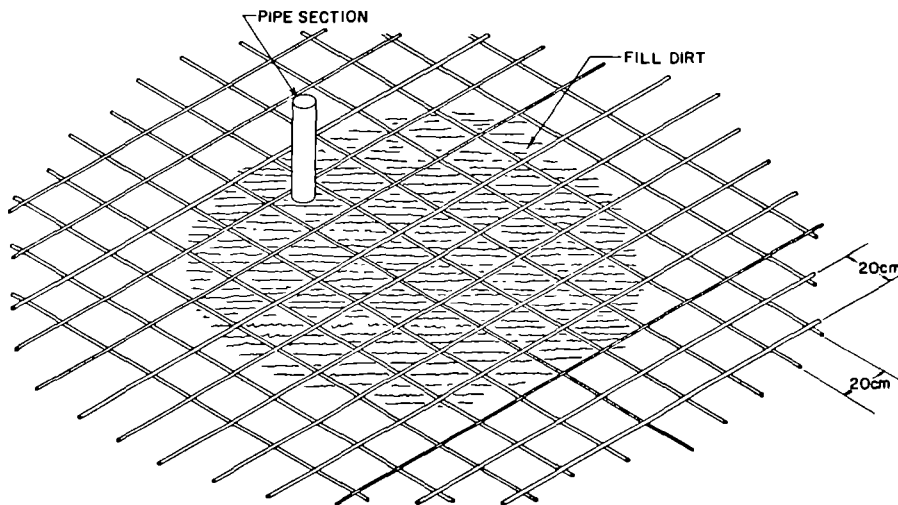

Figure 4. Reinforcement for Filled Dug Wells
Lay out ten (10) mm diameter reinforcing bars on twenty (20) cm centers. The bars should extend fifty (50) cm beyond the edge of the well on either side. After the bars have been cut to length and placed on center, tie the bars together with 16-gauge tying wire. The bars are then raised 1-½ to 2 centimeters above the ground by placing small rocks under the reinforcing bar framework. The well should now resemble Figure 4.